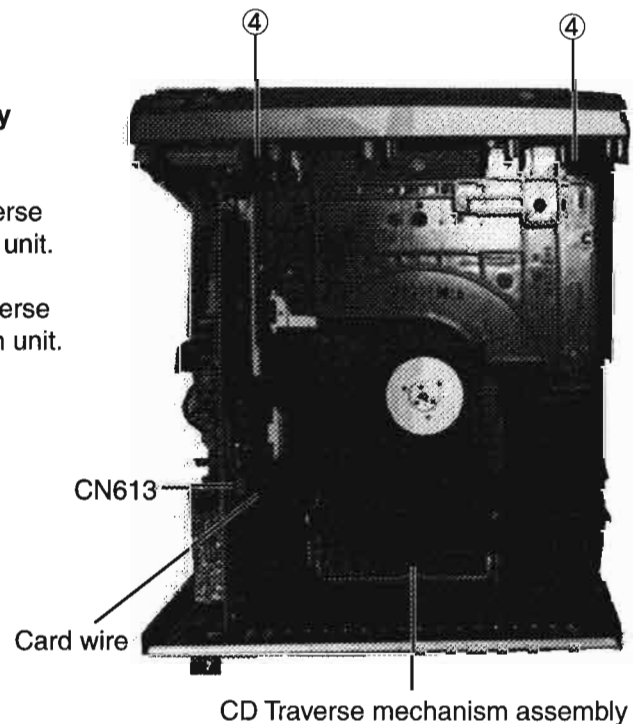

Fig. 3
3. Remove the two screws ④ fastening the CD traverse mechanism assembly to the side panel of the main unit. (See Fig.3,4)